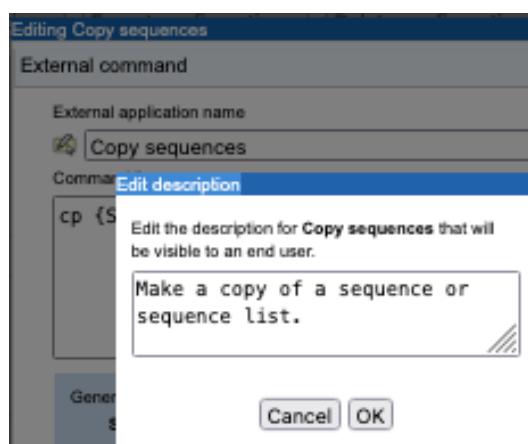

Figure 15.6: Click on the small icon to the left of the "External application name" field to add a description.
**External application name** The name of the external application, as it will be seen by client software. Click on the small icon to the left to add a description (figure 15.6). This description will then be available in client software. For example, in a *CLC Workbench*, it is available in a tooltip when the mouse cursor is hovered over the external application name